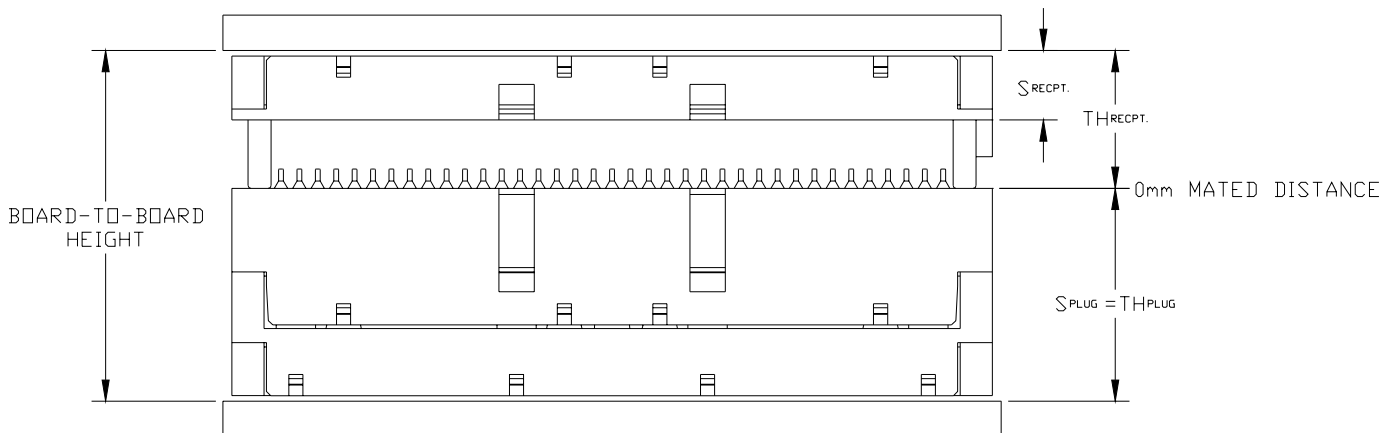

Figure 16: Nominal Mating Sequence
*TH is shown in table 1 and figure 16
Figure 16 and table 4 show the mating sequence as related to the distance between the inside board surfaces of a 20mm mated pair. For mated heights other than 20mm, determine the board-to-board spacing by adding the difference of new mated-height – 20 mm to the values specified. The mate distance and wipe length values will not change.